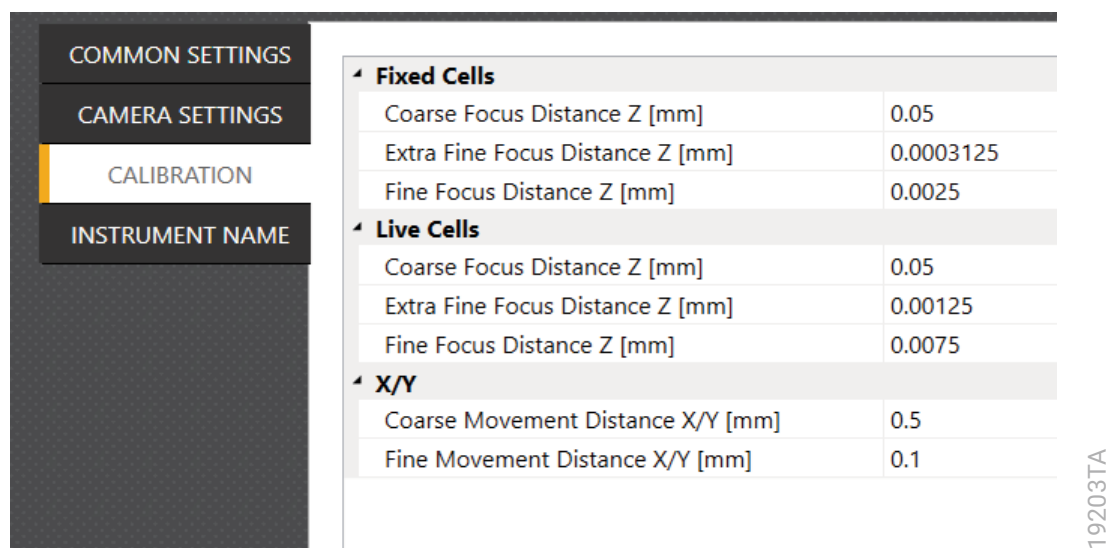

Figure 43. 'Preferences' screen showing the 'Calibration' tab.
On the 'Calibration' tab (Figure 43), an administrator can adjust coarse and fine motion distances for the XY-stage and for focus (Z). In addition to coarse and fine distances, an extra fine distance is also defined for focus (Z). The minimum setting for Z extra fine is 0.0003125mm, which will provide optimal focus adjustment for fixed samples. Separate focus settings are provided for Live Cell and Fixed Cell imaging.